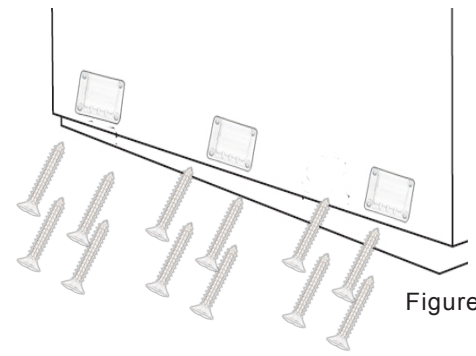

Figure 2
Using the **#8 x 1-1/4" mounting screws (I)**, attach the **Mounting Brackets (F)** to the back side of the spa. Space the Mounting Brackets evenly across the width of the spa. (See Figure 2).